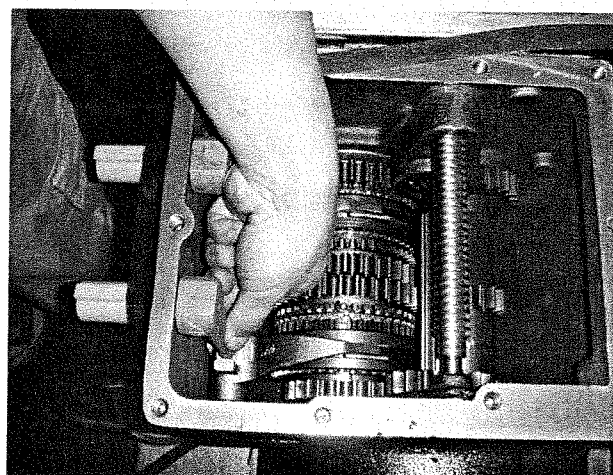

Fig 2-20
(8) Loosen off the poking fork together with gear shift lever. Attention: At this point the position where the poking fork located shall be known clearly (Fig 2-20).